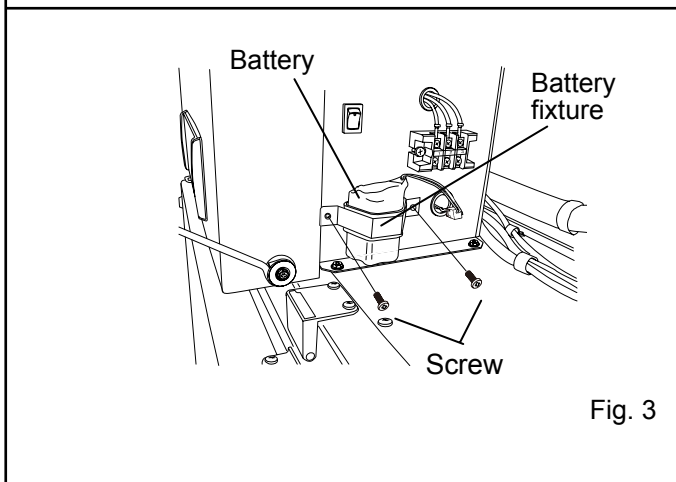

Fig. 3
3. Remove 2 screws fixing the battery fixture with a screw driver. (Fig. 3)